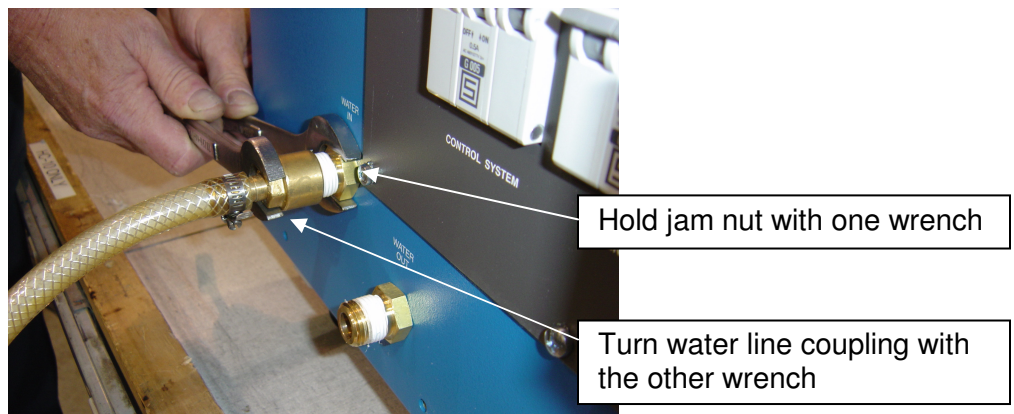

Figure 5 Connect and Remove the Water Lines
1. Connect coolant supply and return lines to the fittings on the front of the compressor. Use two wrenches. Hold the bulkhead fitting's jam nut with a 15/16" wrench. See Figure 5. Connect the supply line to the customer's cooling water or coolant supply valve. Turn on the coolant and check the lines for leaks. Tighten the fittings if necessary. See Specifications for cooling requirements.